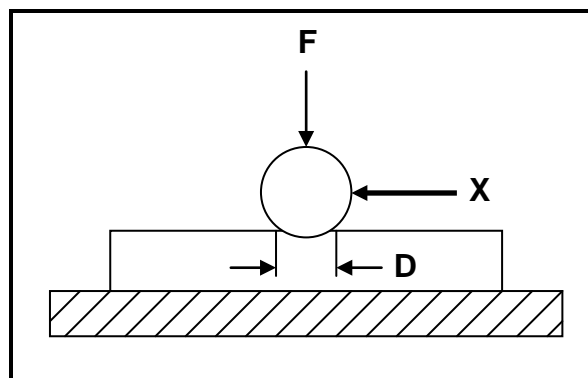

FIGURE 1.1
- D The meter must be tightened well until no hissing sounds can be heard. (1)
- 1.3 Petrus uses the Brinell hardness tester to determine the hardness of a test piece. FIGURE 1.1 shows the test piece during the test. Identify part X.